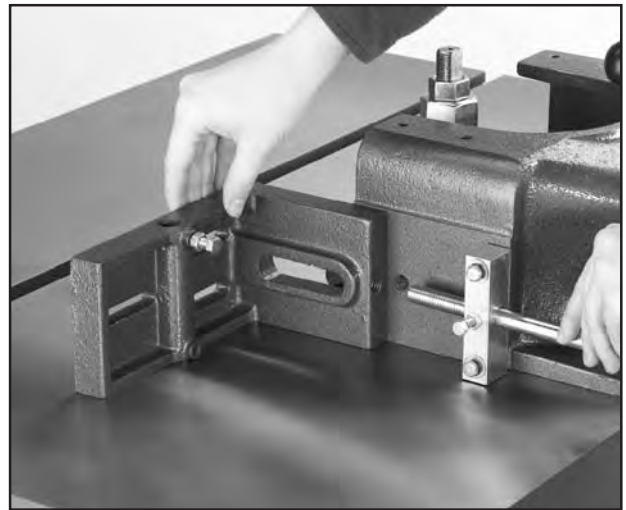

Figure 15. Adjustment guide to fence bracket.
1. Thread the adjustment shaft into the fence bracket as shown in **Figure 15**.